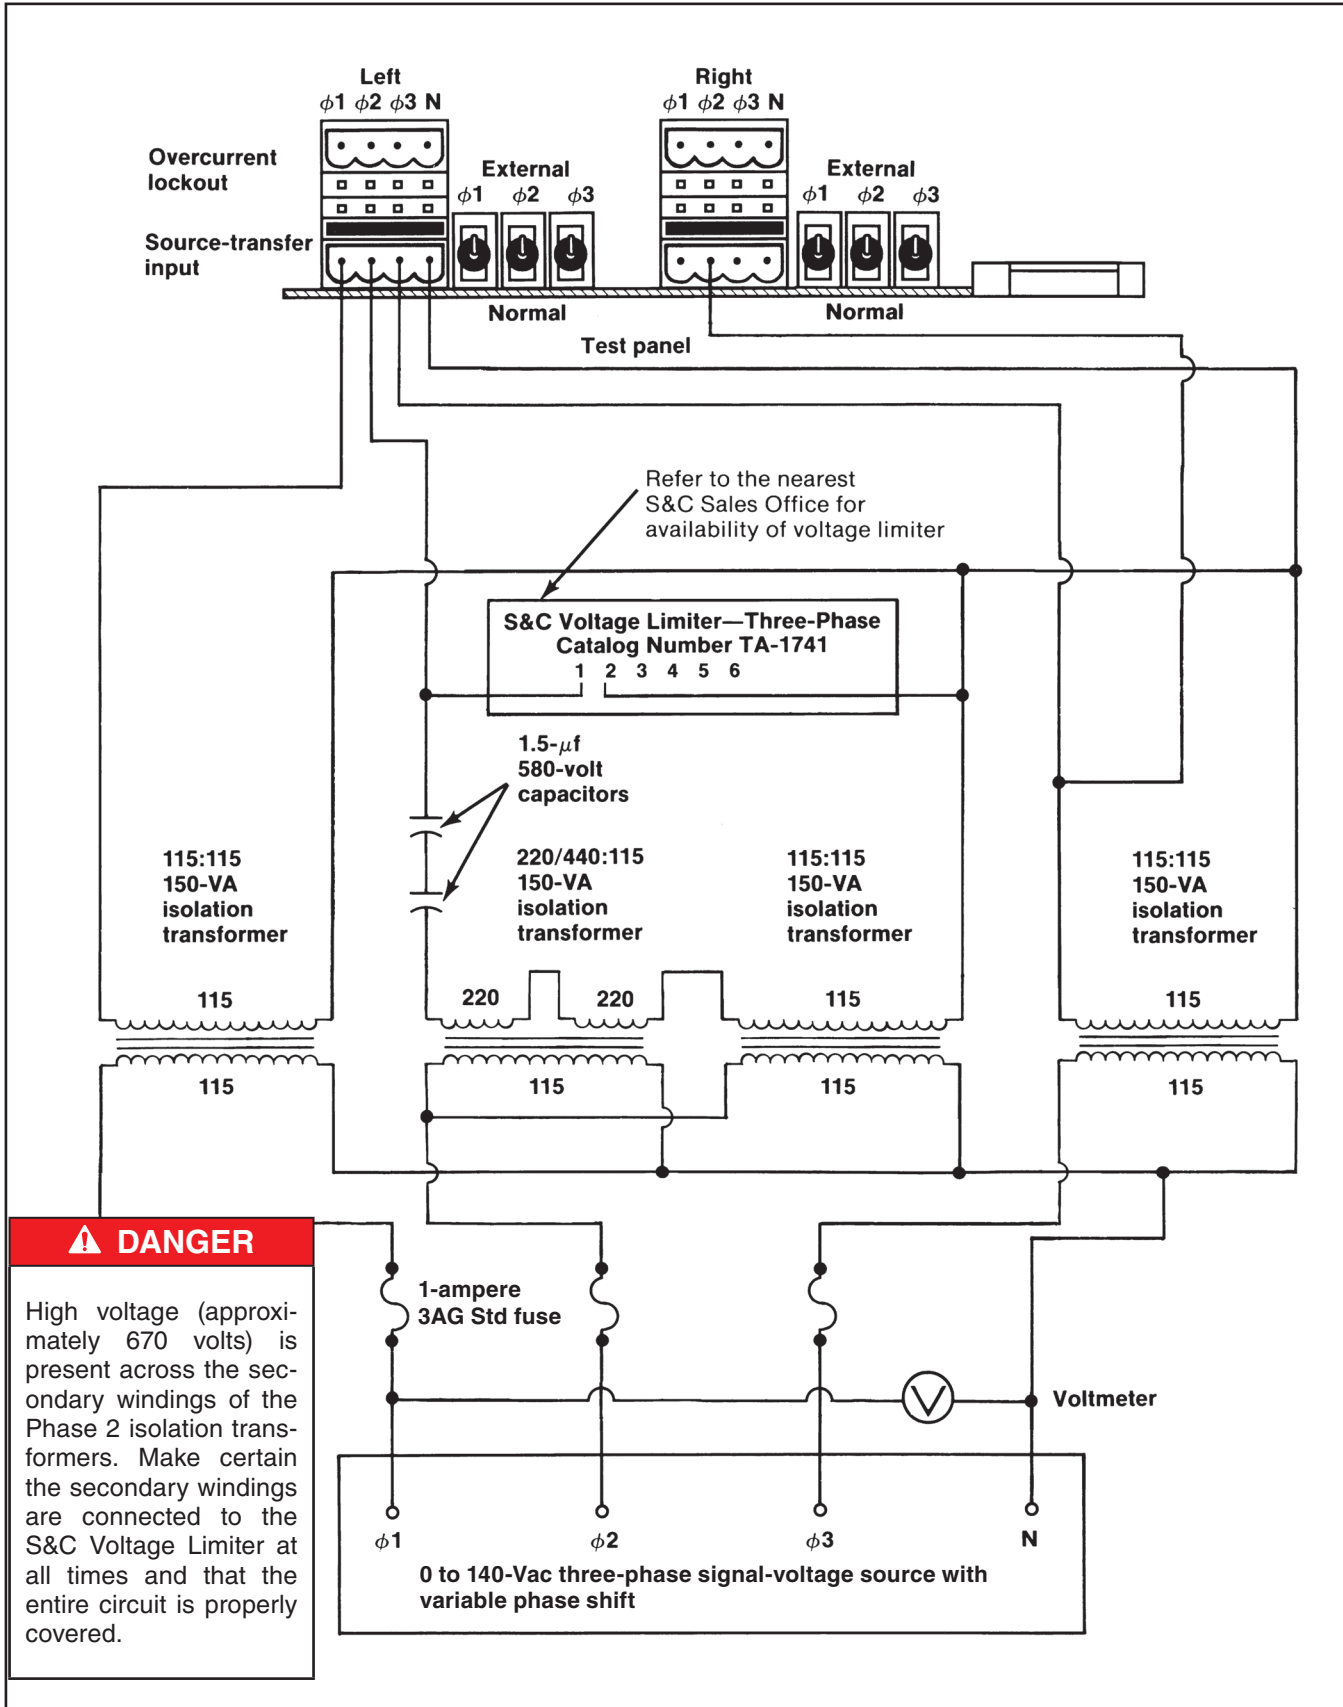

Figure 5. A three-phase source test-circuit connection diagram for source-transfer pad-mounted gear applications.
- STEP 5.** Place the **EXTERNAL/NORMAL** selector switches on the test panel for the left source and the right source in **External** mode. See Figure 5 on page 14.
- STEP 6.** *If a 0 to 140-volt, 60-Hz three-phase signal-voltage source with variable phase shift is available:* Make up the three-phase source test-circuit connections as shown in Figure 5 on page 14.
STEP 16. *If the three-phase source test circuit shown in Figure 5 on page 14 is used, repeat Steps 11 through 15 for Phase 2 and then for Phase 3.*
The testing steps in this section can be performed only if the three-phase source test circuit shown in Figure 5 on page 14 is used. If a single-phase source test circuit is used, proceed to Step 22.